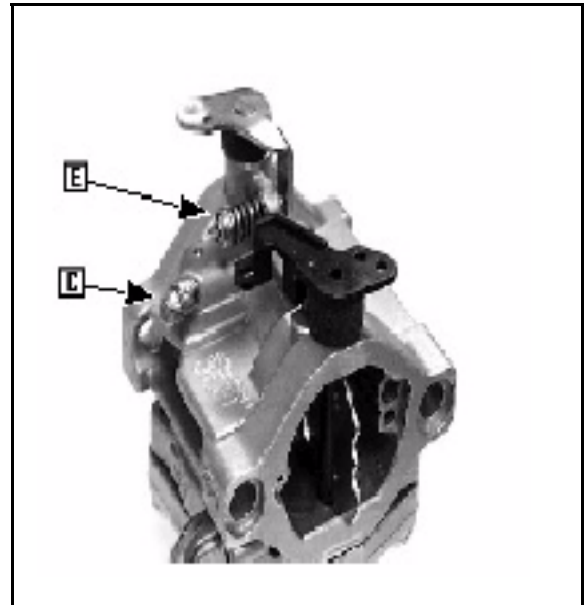

Fig. 137
- Remove the idle mixture screw with spring (D) and the idle speed screw with spring (E] Fig. 137).